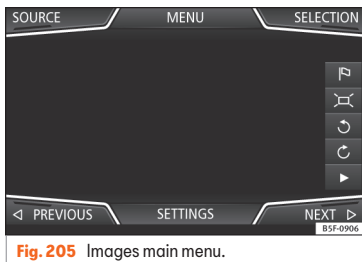

Fig. 205 Images main menu.
- Press the **SOURCE** >>> Fig. 205 function button and select the data storage device where the images are stored.